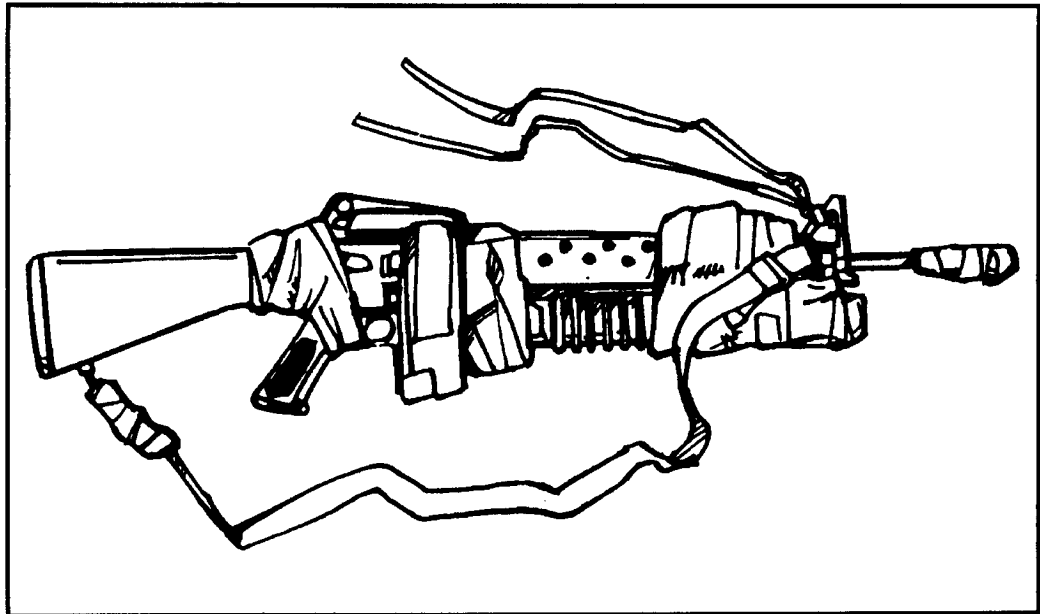

Figure 12-17. M203 grenade launcher, padded and taped.
d. Prepare the M203 grenade launcher as outlined above, but place additional padding and tape around it (Figure 12-17).